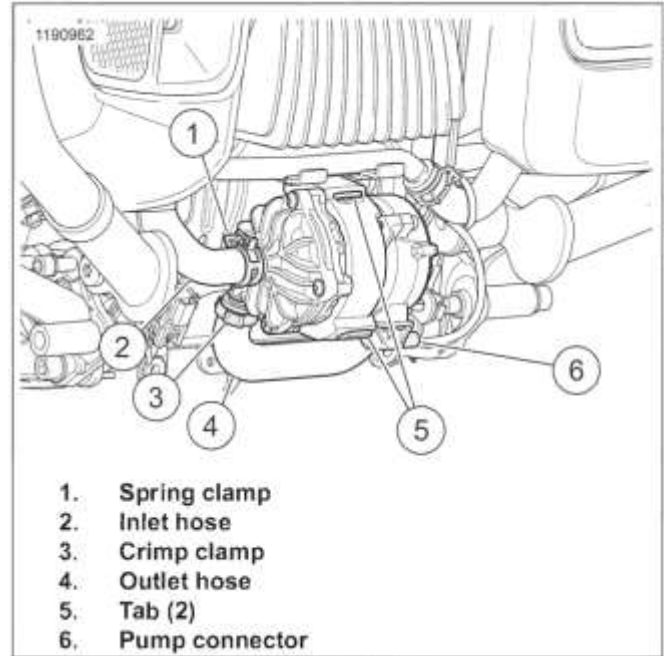

Figure 7-9. Coolant Pump
1. See Figure 7-9. Disconnect pump connector (6).
- a. Remove spring clamp (1).
- b. Remove inlet hose (2).
- a. Remove crimp clamp (3). See CRIMP CLAMPS (Page 4-16).
- b. Remove outlet hose (4).
4. Remove pump from tabs (5).
1. See Figure 7-9. Install coolant pump on tabs (5).
- a. Install outlet hose (4).
- b. Install crimp clamp (3). See CRIMP CLAMPS (Page 4-16).
- a. Install inlet hose (2).
- b. Install spring clamp (1).
4. Connect pump connector (6).